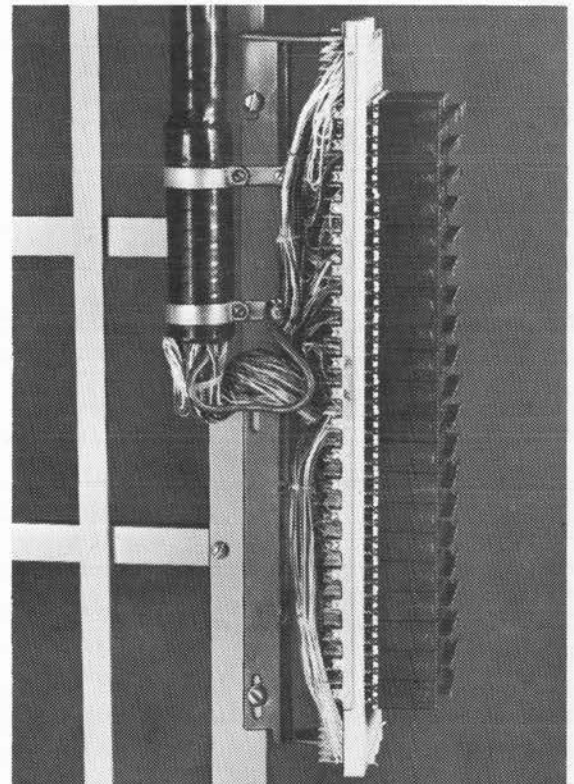

Figure 13.
- 5.10 The cable stub may be turned 180 degrees (see figure 13) at locations where there is no cable vault or the stubs go to the top of the frame. But use this method only if no other cabling routing is possible. Handle the cable very carefully to avoid breaking wires. Be sure enough clearance is available for molded end of cable stub above top of connector base before using this method. (If the "stub-up" requirement is known in advance, order the C-303 Connector with the cable stub already mounted in the "stub-up" position.) Change the cable position as follows: